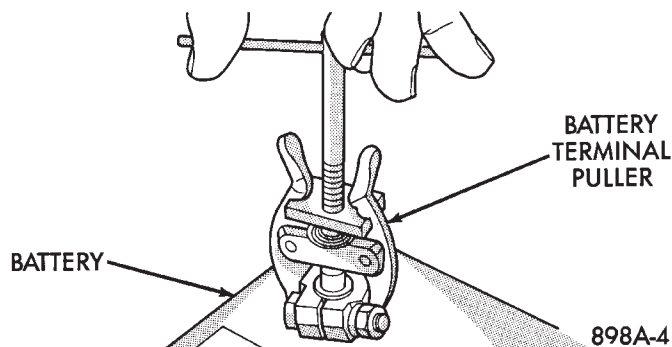

Fig. 10 Remove Battery Terminal Clamp
(1) Turn the ignition switch to the Off position. Make sure all electrical accessories are off.
(2) Loosen the cable terminal clamps and disconnect both battery cables, negative cable first. If necessary, use a puller to remove the terminal clamps from the battery posts (Fig. 10).